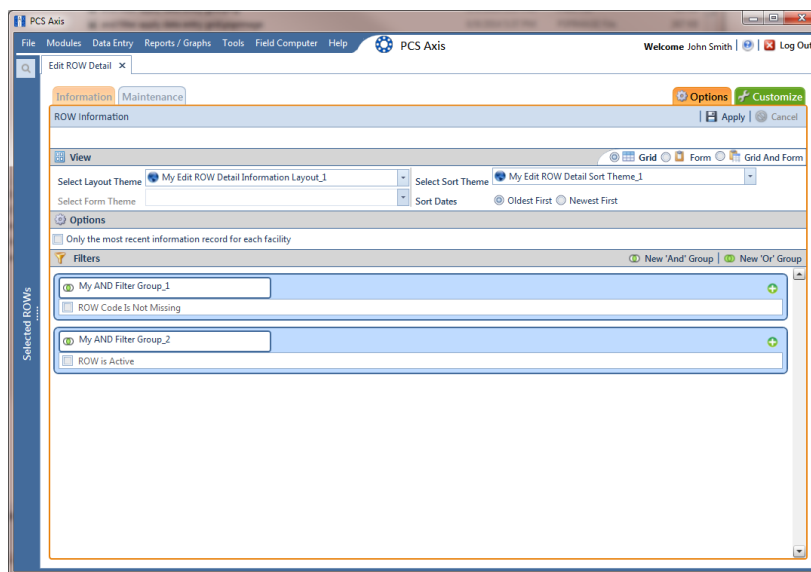

Figure 4-41. Options
- 13 To apply one or more custom filter groups to the data entry grid of *Edit ROW Detail*, follow these steps (Figure 4-41, page 177):